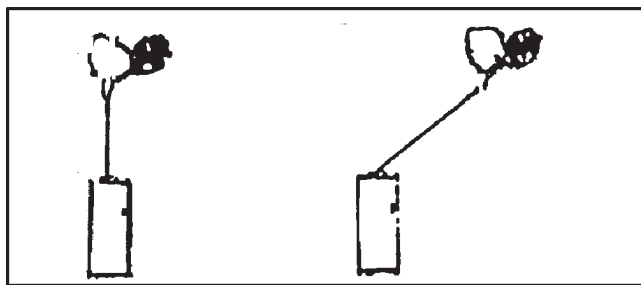

Figure 11-10 Correct and incorrect positioning for continuous pulls.
11. Avoid continuous pulls from extreme angles as this will cause the wire rope to pile up at one end of the drum (Figure 11-10). This can jam the wire rope in the winch causing damage to the wire rope or the winch itself.